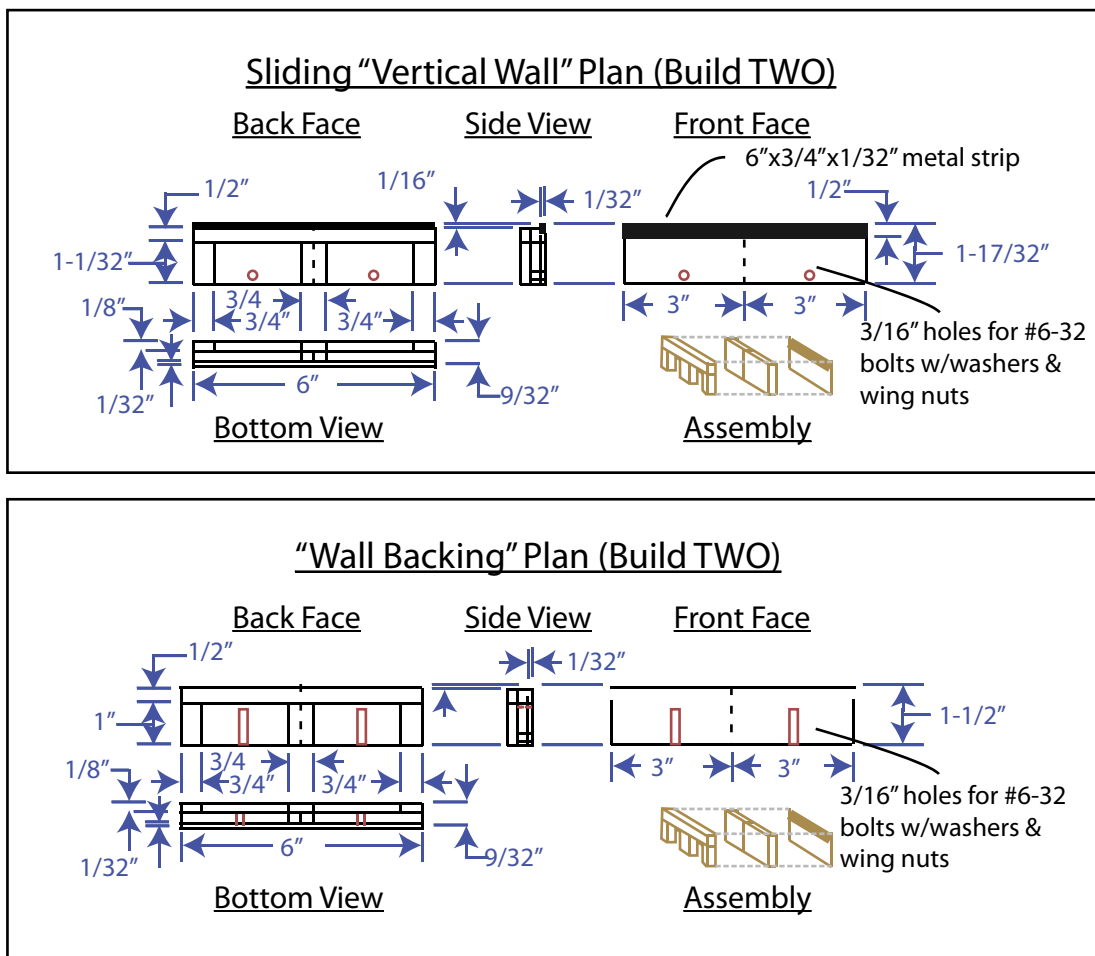

Figure 4: Guide Wall And Wall Backing Construction
walls. These are the walls that will move up and down vertically to adjust your sanding slopes. They have the metal strips attached. They are shown in red in Figure 3 and in more detail in Figure 4.
Step 1: Construct your 2 vertical walls first (refer to "Vertical Wall" Diagram in Figure 4).
- The “wall backing” (refer to “Wall Backing” in Figure 4 on page 7).